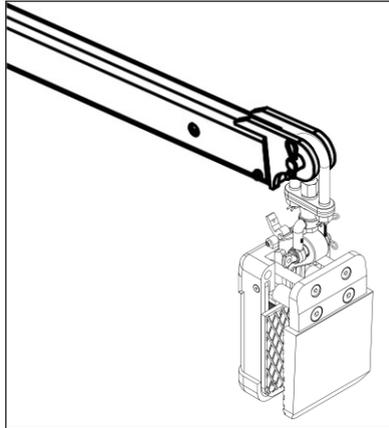

Figure 1.1
**Step 1:** Hook the Little Giant Lifter to a forklift boom (Figure 1.1).